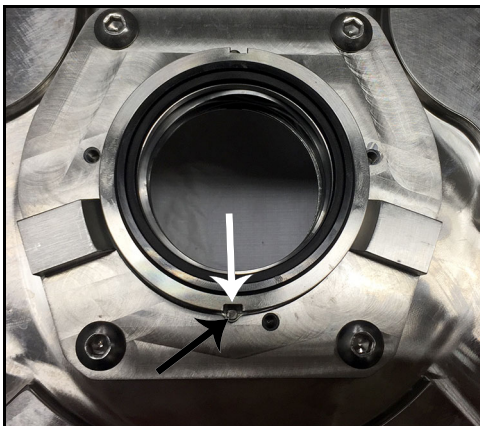

Figure 98 - Flush-side stationary seal installed
17. Figure 98 shows the flush-side stationary seal installed. Note the notches (white arrow) lined up with the seal housing pins (black arrow).